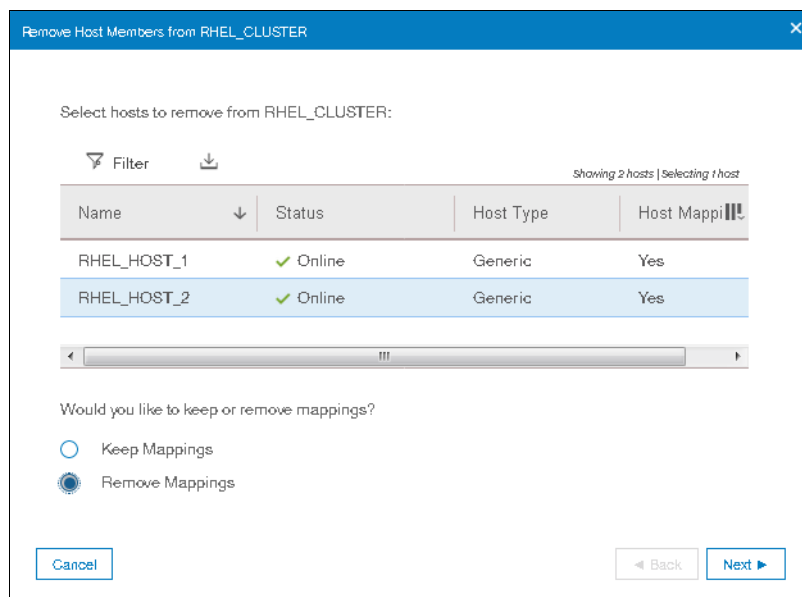

Figure 5-105 Mapping selection during removal of host member from host cluster
5. Select appropriate radio button to indicate whether you want to keep the mappings after the host member is removed from the host cluster or to remove those mappings. In our example we chose to **Remove Mappings** as shown in Figure 5-105.